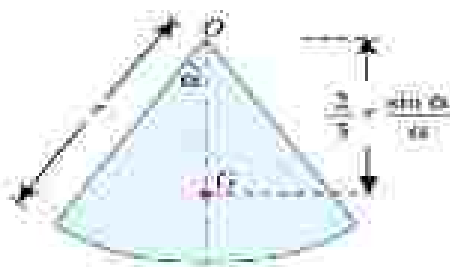

Fig. 6.5. Circular sector
6. The centroid of a circular sector making semi-vertical angle α is at a distance of $\left(\frac{2r \sin \alpha}{3\pi} \right)$ from the centre of the sector measured along the central axis as shown in Fig. 6.5.